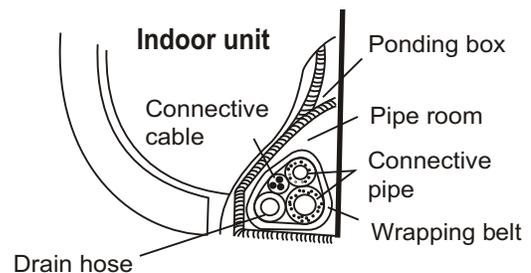

Fig. 13
- Bundle the tubing, connecting cable, and drain hose with tape securely, evenly as shown in Fig.13.